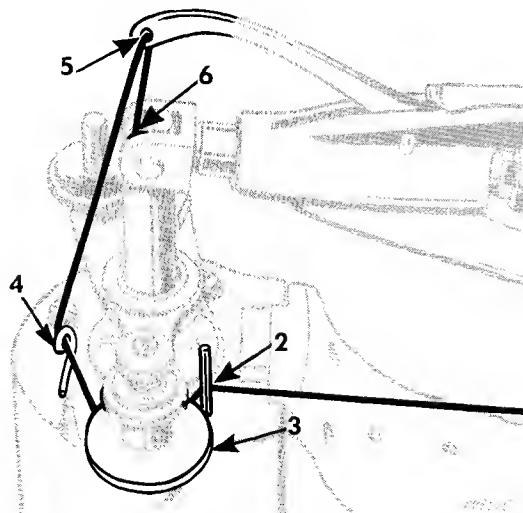

Fig. 20. Upper Threading
3. Draw the thread around back of pin **2** which is near the tension discs on top of the arm and from back to front and right to left between the tension discs **3**. See **Fig. 20**.